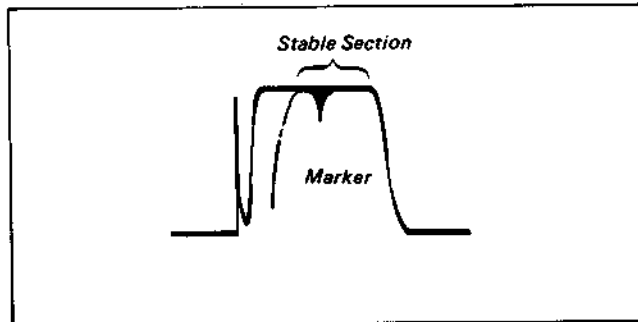
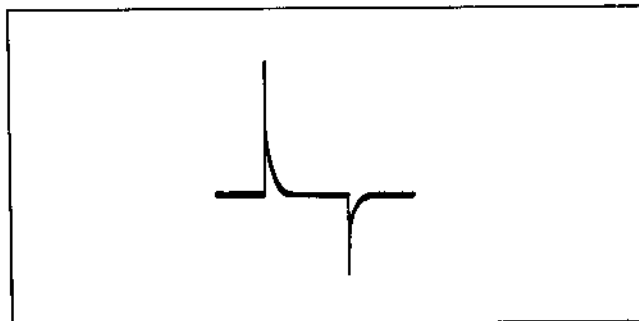
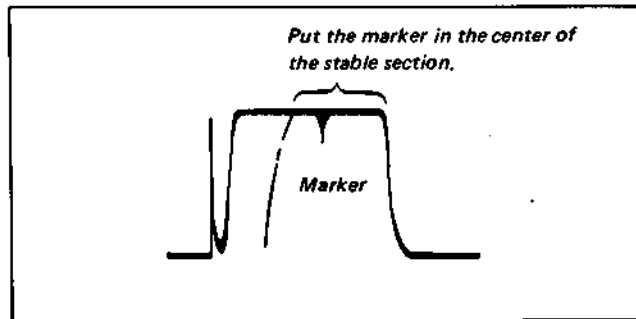

Fig. 4-42.
Fig. 4-43.
Fig. 4-44.
- (3) The waveform shown in Fig. 4-42 or Fig. 4-43 should appear on the oscilloscope. If the waveform is as shown in Fig. 4-42, no adjustment is required. If the waveform is the one in Fig. 4-43, repeat PAUSE and PAUSE release until the waveform in Fig. 4-42 appears.
- (4) The trapezoidal wave in Fig. 4-42 is unstable at both sides and overlapping lines are visible. In the stable section where lines do no overlap, there is a marker. Adjust RV20 so that the marker is in the center of the stable section. (see Fig. 4-44).